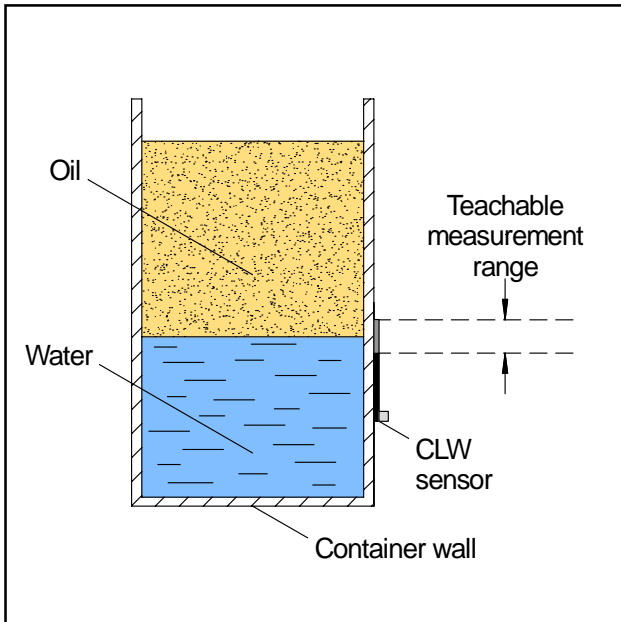

Fig. 4: Setup of point level detection of oil over water
1. Attach the CLW sensor to the tank so that the water/oil boundary lies centred to the sensor pad (see teachable measurement range in Fig. 4). Make sure not to use the very edges of the sensor pad.